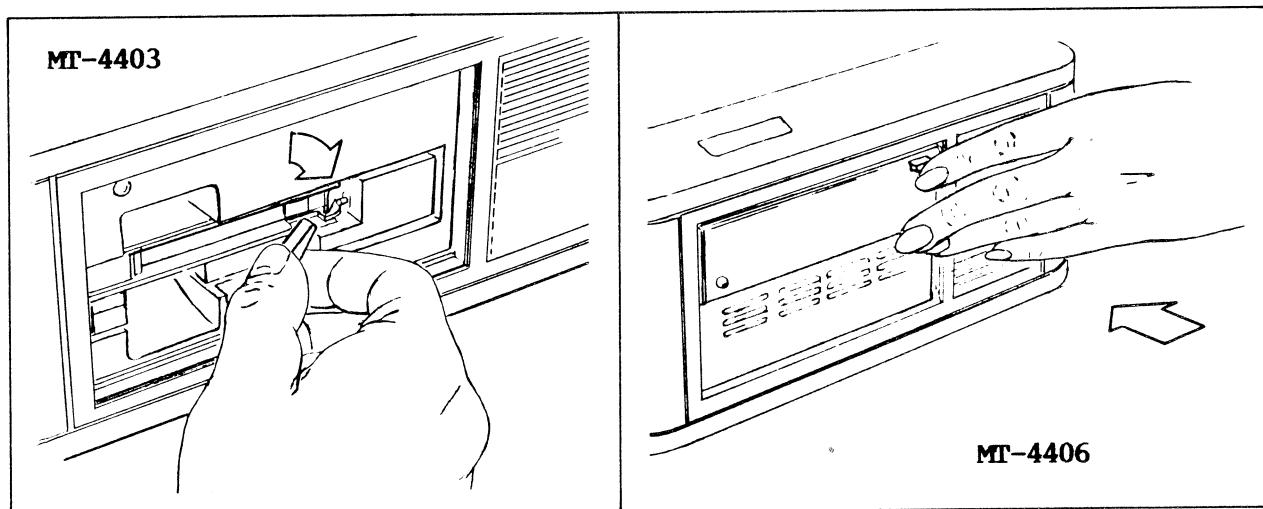

Figure 3-4. Opening the MTCS
1. **MT-4403.** Open the MT-4403 by moving the front lever down to its horizontal position (see figure 3-4).
MT-4406. Open the MT-4406 by pushing the front button to release the cartridge door (see figure 3-4).
1. MT-4403. Move the front lever down to its horizontal position (figure 3-4).
MT-4406. Push the front button to release the cartridge door (figure 3-4).